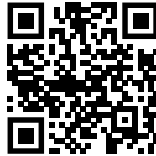

Fig. 155
- Avage Liebherr SmartMonitoring Dashboard. (vt. Fig. 155)